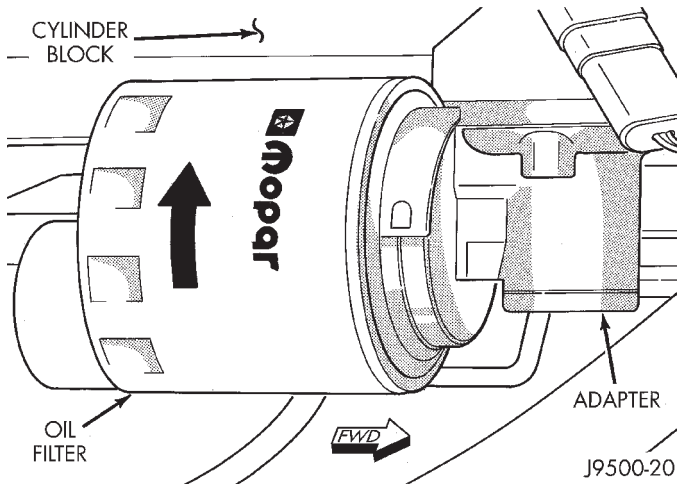

Fig. 9 Oil Filter—4.0L Engine
- (1) Position a drain pan under the oil filter.
- (2) Using a suitable oil filter wrench loosen filter.
- (3) Rotate the oil filter counterclockwise (Fig. 9) to remove it from the cylinder block oil filter boss.